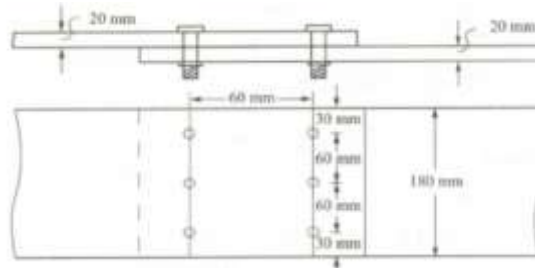

Fig. 12a
- (b) Explain the concept of limit state design methods for steel structures and discuss its advantages and limitations. (13)
12. (a) Solve for efficiency of lap joint shown in Fig.12a given M20 bolt of grade 4.6 and a plate of grade Fe 410 steel are used. (13)
- (b) Find the efficiency of lap joint for the problem given in Fig.12a if instead of lap joint, double cover butt joint is used. Two cover plates each of size 12 mm and 6 Nos. of bolts are provided on each side. (13)